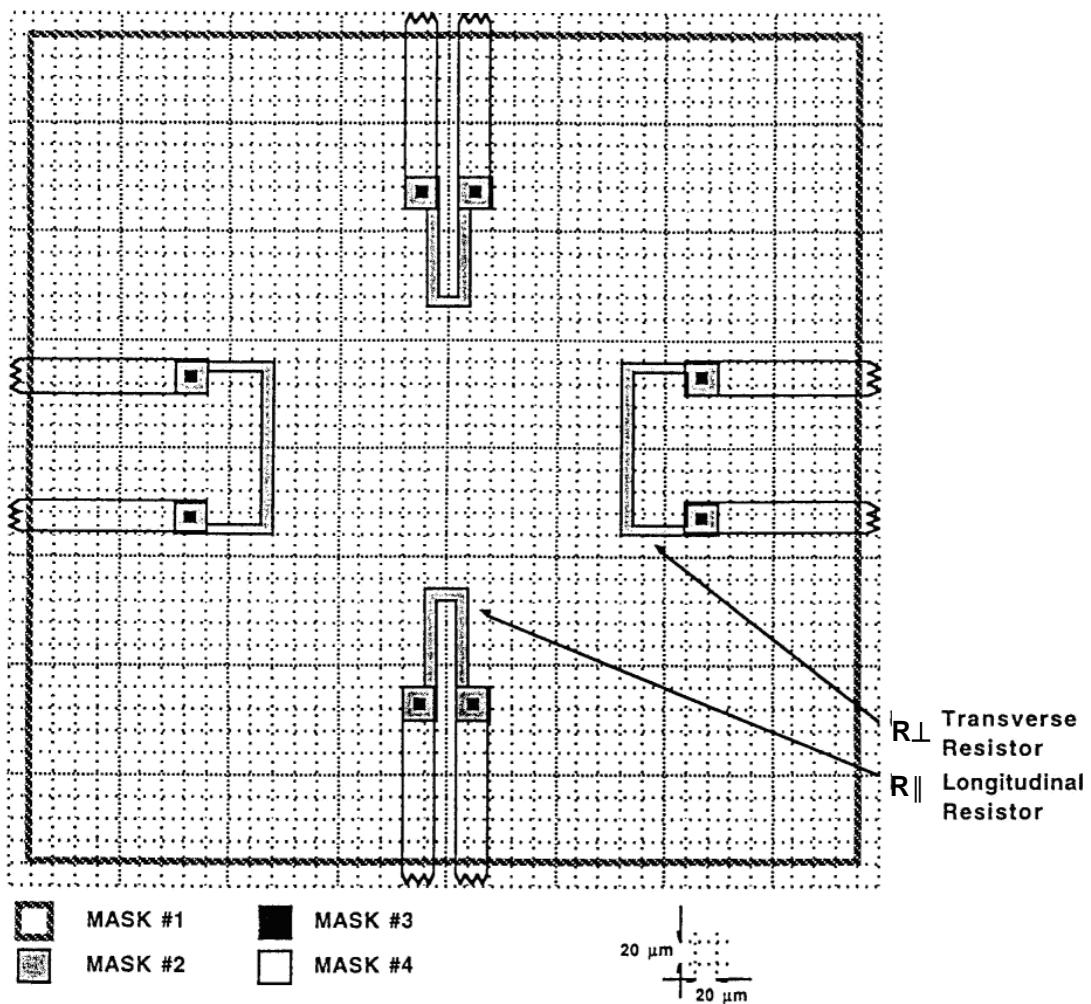

Figure 2: Layout of the pressure sensor using a 4 masks fabrication process.
- On Figure 2 draw the edges of the silicon membrane.
d) Complete the section below on the characteristics of the pressure sensor fabricated using the mask layout presented in Figure 2. (thickness of piezoresistors: 1  $\mu\text{m}$ ,  $\rho_{\text{Si}} = 0.001 \Omega\text{-cm}$ ).